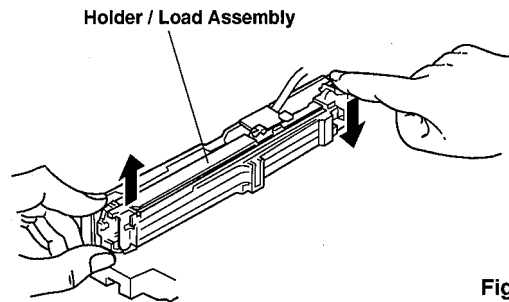

Fig. 4
- Using both hands, remove the Holder / Load Assembly by applying force in the arrow directions (up / down) at its front and rear ends as shown in Fig. 4. The boss of the Holder / Load Assembly makes a clicking sound when it comes off the Slider / Lift-L.